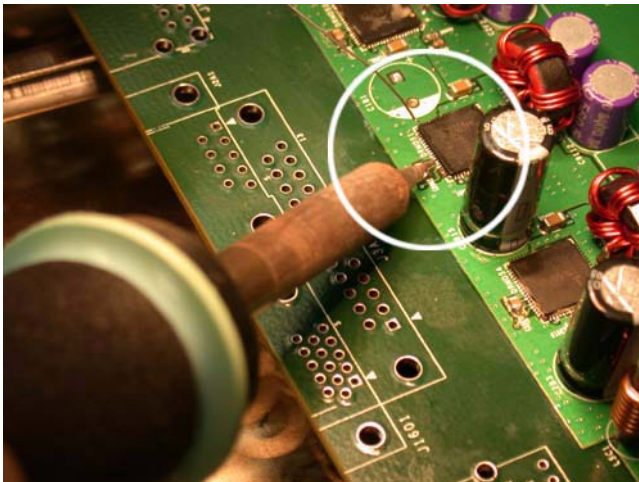

**FIGURE 18. COMPONENT REPLACEMENT**
3. Apply some flux onto the large redressed board land that will accept the newly tinned large center thermal land on the component. Be sure to properly orient the component on the board and identify the “pin 1” location. Under a microscope at magnification sufficient to see the entire component, place the newly tinned replacement component onto the board and align/center the component “as best you can”. You will feel the component “rock” or “teeter totter” due to the tinned center land on the bottom of the component. This is normal. Holding the component in place with tweezers and light downward pressure, apply heat from the hot gas nozzle as described previously until the solder on the large thermal pad under the component reflows (see Figure 18).